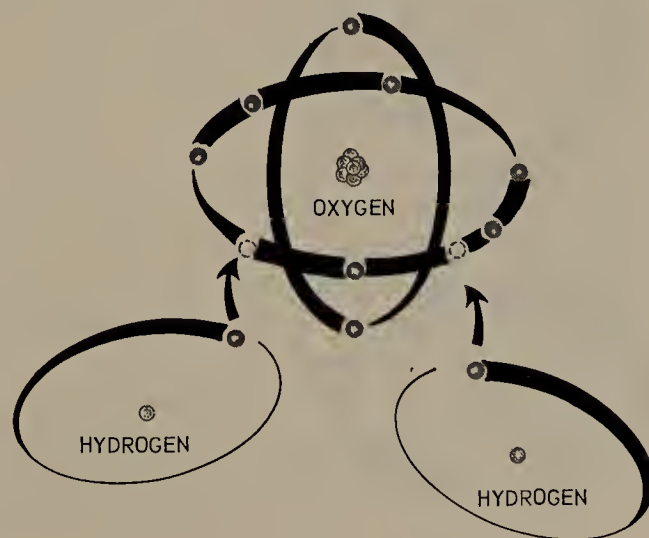

FIGURE 2.5 One atom of oxygen uniting with two atoms of hydrogen to form a molecule of water, or H_2O .
2.6 Chemical Reactions. When two or more atoms link up, or combine, they form a molecule. The linking-up process is called chemical reaction. For example, two atoms of hydrogen and one atom of oxygen react to form one molecule of water (Fig. 2.5). Water has the chemical formula H_2O , which means each molecule has two atoms of hydrogen and one atom of oxygen. When one atom of sodium (chemical symbol Na) unites with one atom of sodium (chemical symbol Cl), a molecule of common table salt is formed (NaCl). Another example is sugar, each molecule of which has 12 atoms of carbon, 22 atoms of hydrogen, and 11 atoms of oxygen and the chemical formula $C_{12}H_{22}O_{11}$.